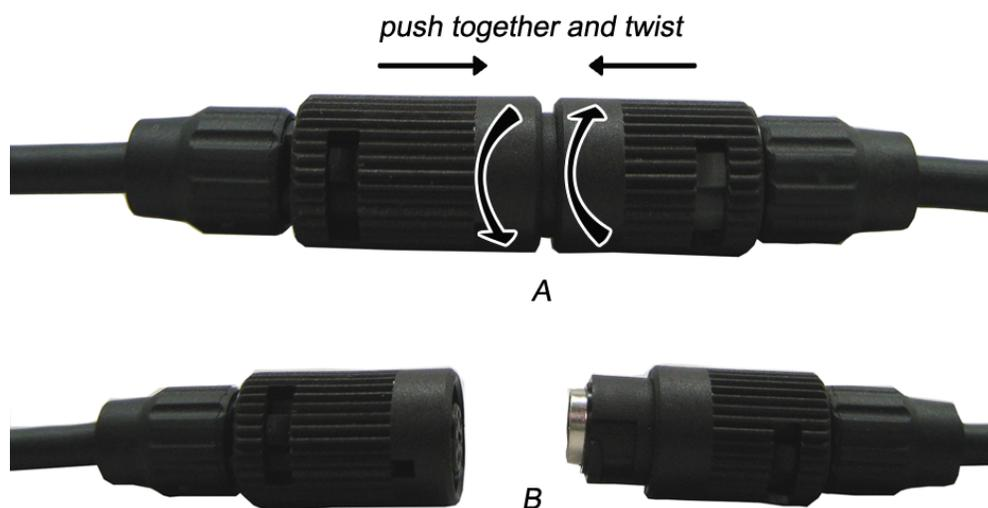

FIGURE 20. Quick Disconnect Connector
1. Holding the quick disconnect in both hands, gently push **each connector end** toward each other (see Figure 20, A).
2. While pushing toward each connector end, twist the **connector ends** in opposite directions so they unlock. *The connector comes apart (see Figure 20, B).*